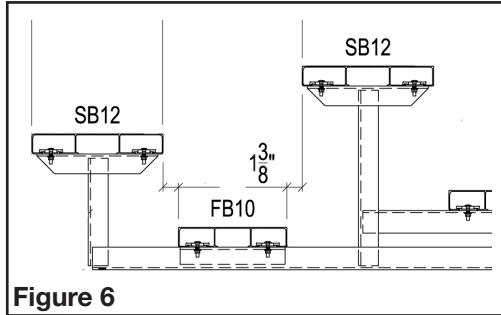

Figure 6
e. Each foot deck plank should align evenly between the back edge of the lower seat and the front edge of the upper seat support bracket as indicated in Figure 6.